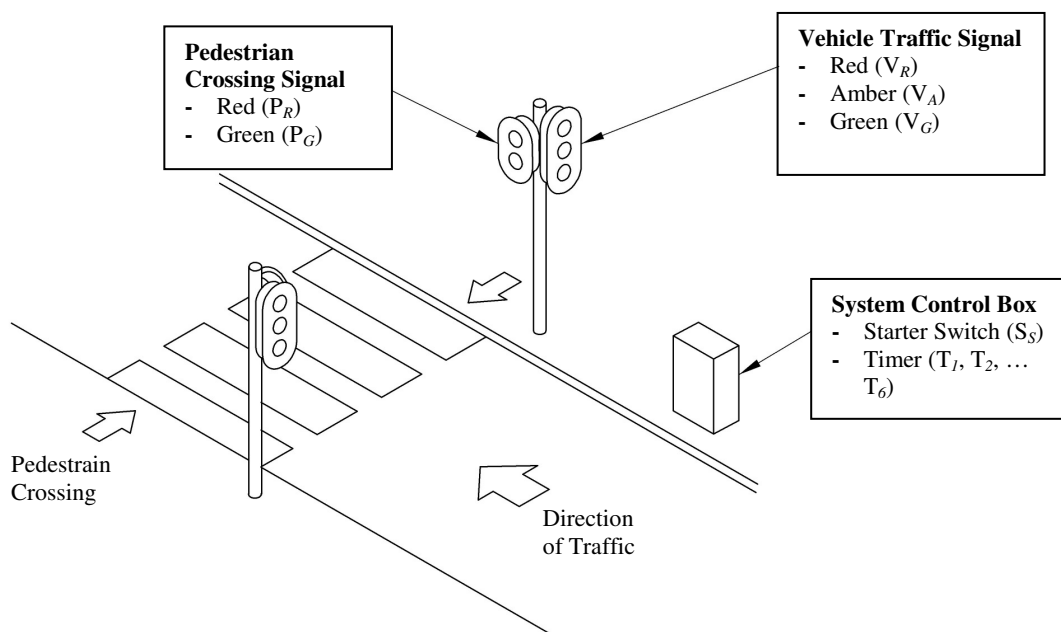

Figure 1
1. Figure 1 shows a traffic light control system, including the names and representational symbols of its component parts. The system operates in typical repeated cycles, and the controller of the system determines a sequence of operation as shown in Table 1.